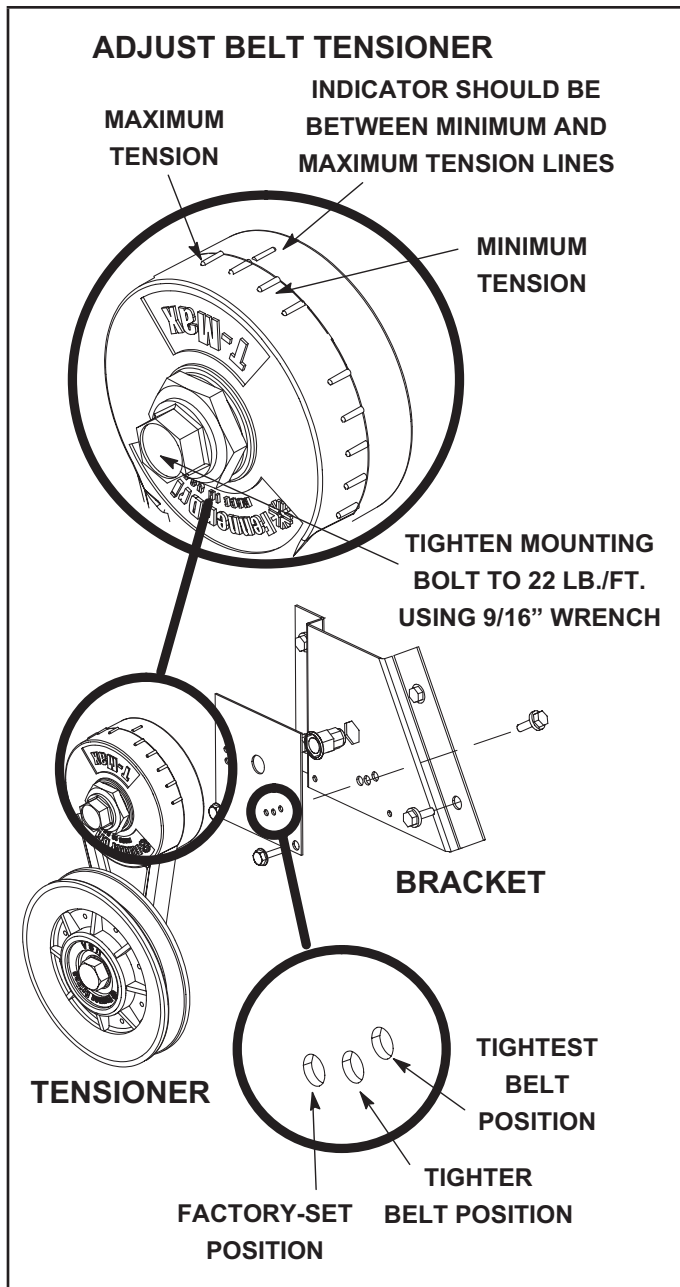

FIGURE 14
- 2 - Remove bracket from blower housing. See figure 14.